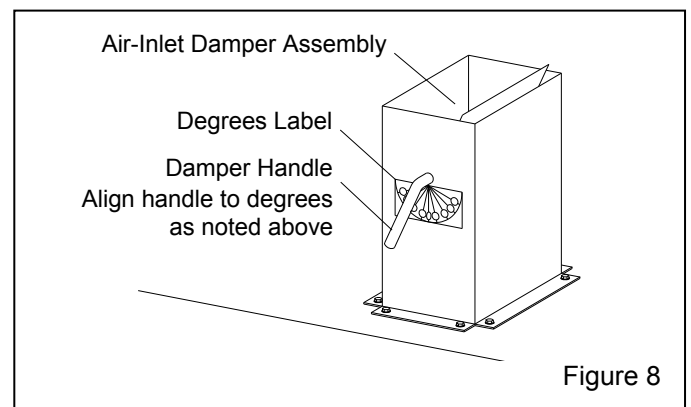

Figure 8
2.6 Cabinet Air-Inlet Damper, refer to Figure 8